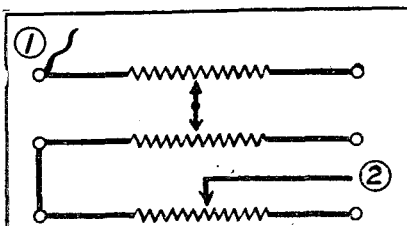

Fig. 16.
Turning now to Fig. 16 we see that if one terminal is connected to the position (1) and the other to the slider marked (2) the resistance in circuit will be equal to that portion of the top resistance element which is to the left of the slider, in series with that portion of the middle resistance element which is to the left of the slider, in series again with the portion of the lower resistance element which is to the left of the slider (2). I forgot to say that to secure this condition it is necessary to connect across the left-hand ends of the middle and lower resistance elements.